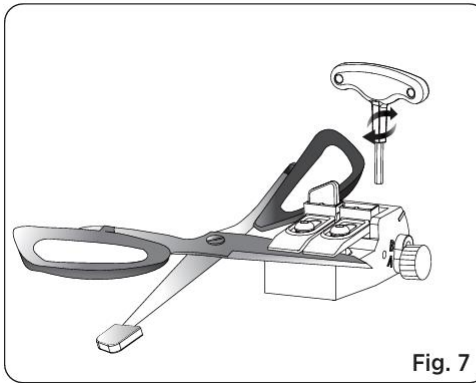

Fig. 7
3. Insert the scissor blade into the clamps and tighten it firmly. Make sure the cutting edge aligns with or slightly extends beyond the lower support block. Adjust the upper clamps to fit scissors with different blade widths (See Fig. 7).